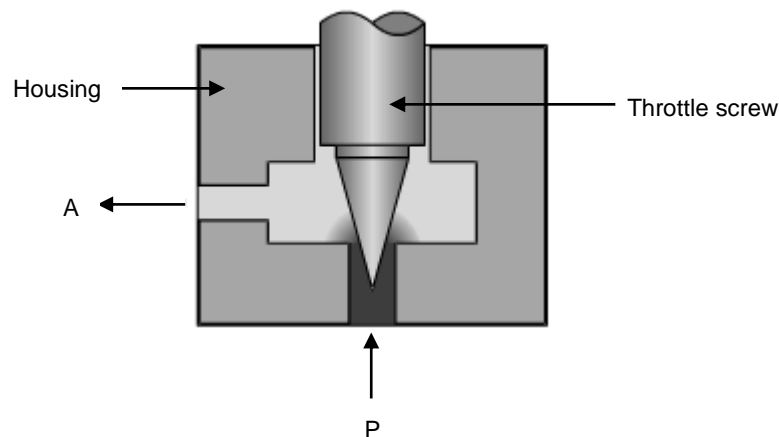

FIG 2.
- B. The pressure that builds up in front of the valve enables the oil to be divided into two paths. Part of the oil delivered by the pump flows through the relief valve and back to the reservoir. The remainder flows through the adjustable restriction formed between the throttling screw and the housing of the valve. The size of this restriction can be increased or decreased by turning the throttling screw which also increases or decreases the speed of the actuator. (Fig 2)